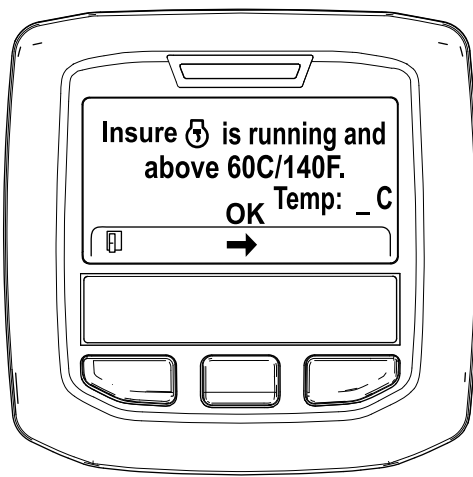

Figure 50
5. If the coolant temperature is below 60°C (140°F) the "Insure  is running and above 60C/140F" message displays. (Figure 50).